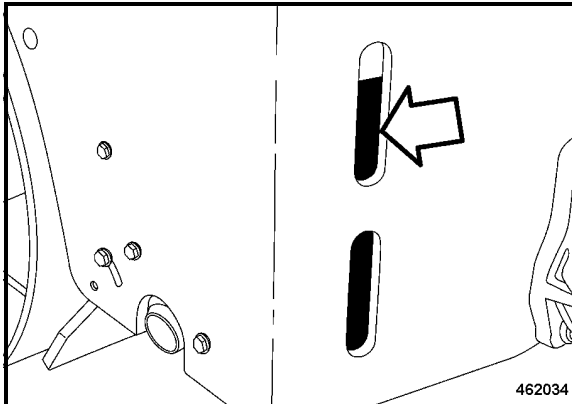

Fig. 114
- Check the fuel level on the fuel gauge (Fig. 114).